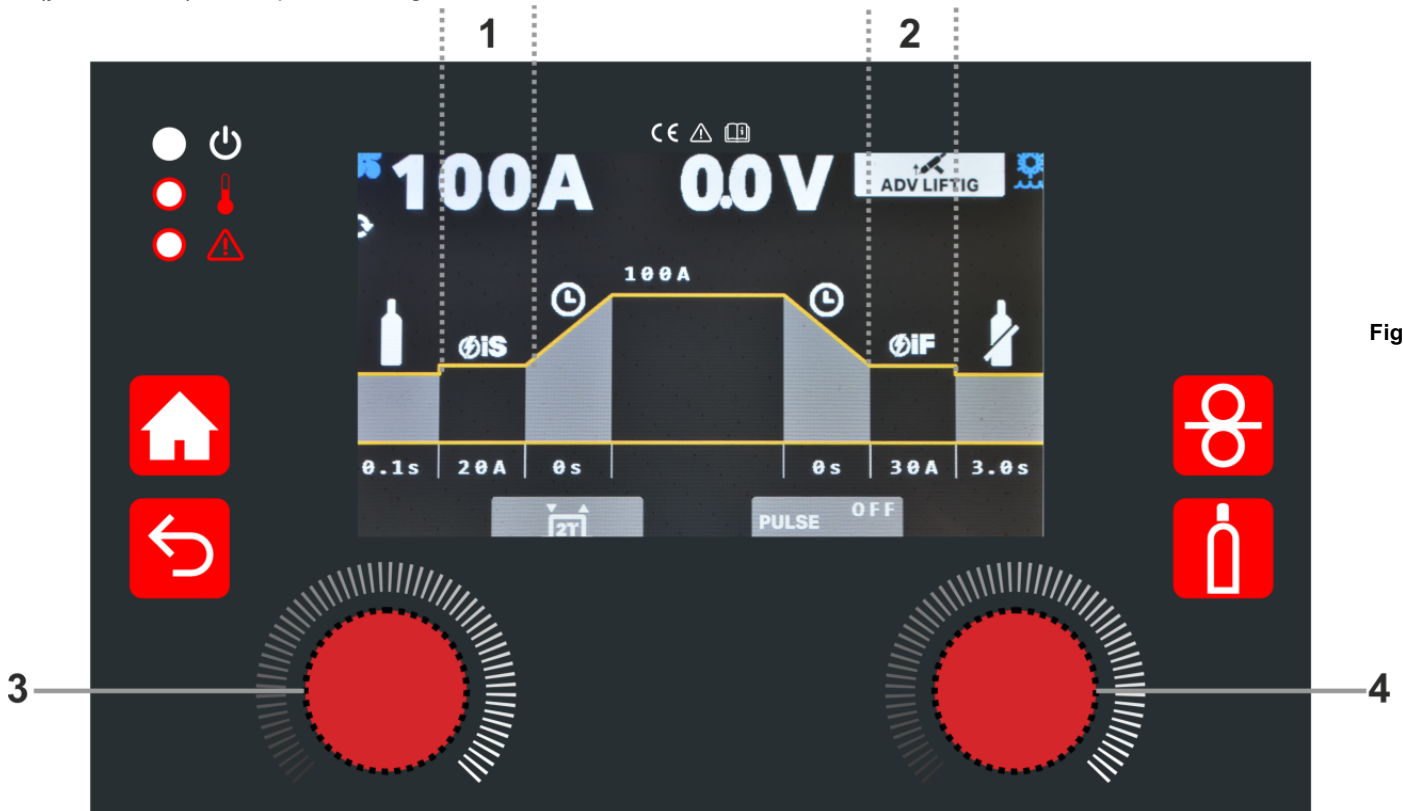

Fig 13
- To select pulsed LIFTIG welding mode, where the welding current varies between a high current value and a low current value to reduce the heat input on the thinnest plates and to better control the arc, turn right side encoder (nr. 4 – Fig.13) until PULSE image is selected (yellow color). Then press the right encoder button so the PULSE image turns red. Rotate the right encoder until the value of PULSE is ON.